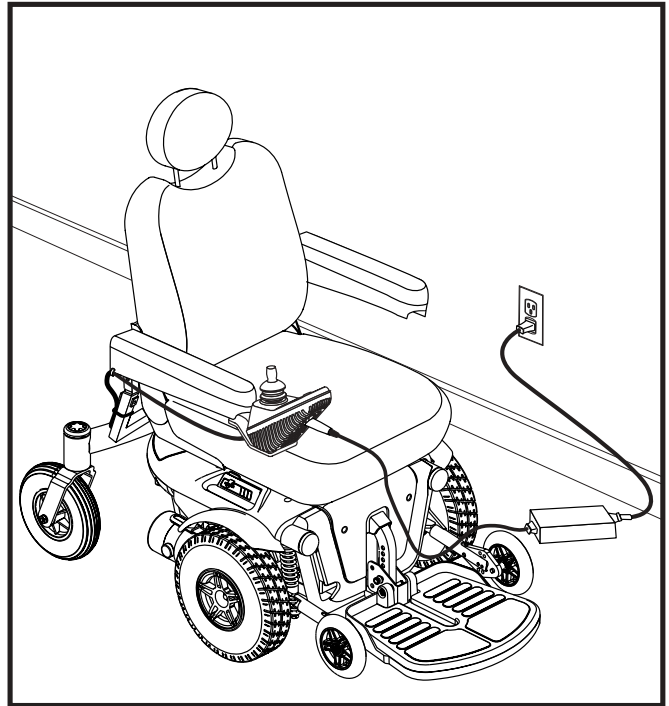

Figure 24. Battery Charging
1. Position the front of your power chair next to a standard electrical outlet. See figure 24.